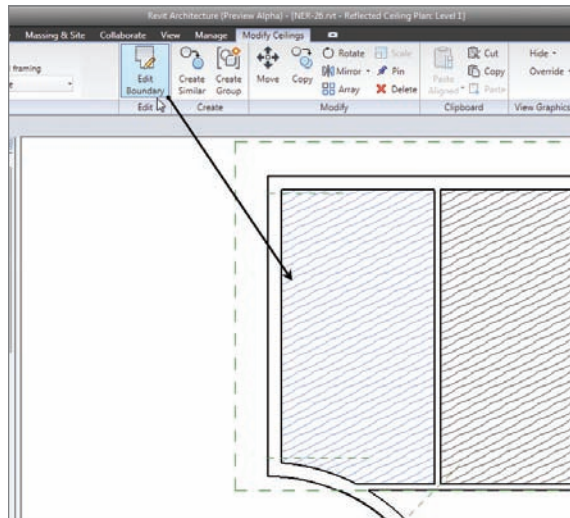

FIGURE 9.23 Clicking the Edit Boundary button on the Modify | Ceilings tab
2. Zoom into the wood ceilings in the west wing, as shown in Figure 9.23.
3. Select the ceiling in the northwest corner of the building, as shown in Figure 9.23.
4. After the ceiling is selected, click the Edit Boundary button on the Modify | Ceilings tab, as shown in Figure 9.23. The ceiling pattern disappears and is replaced by a magenta sketch line at the perimeter of the room.